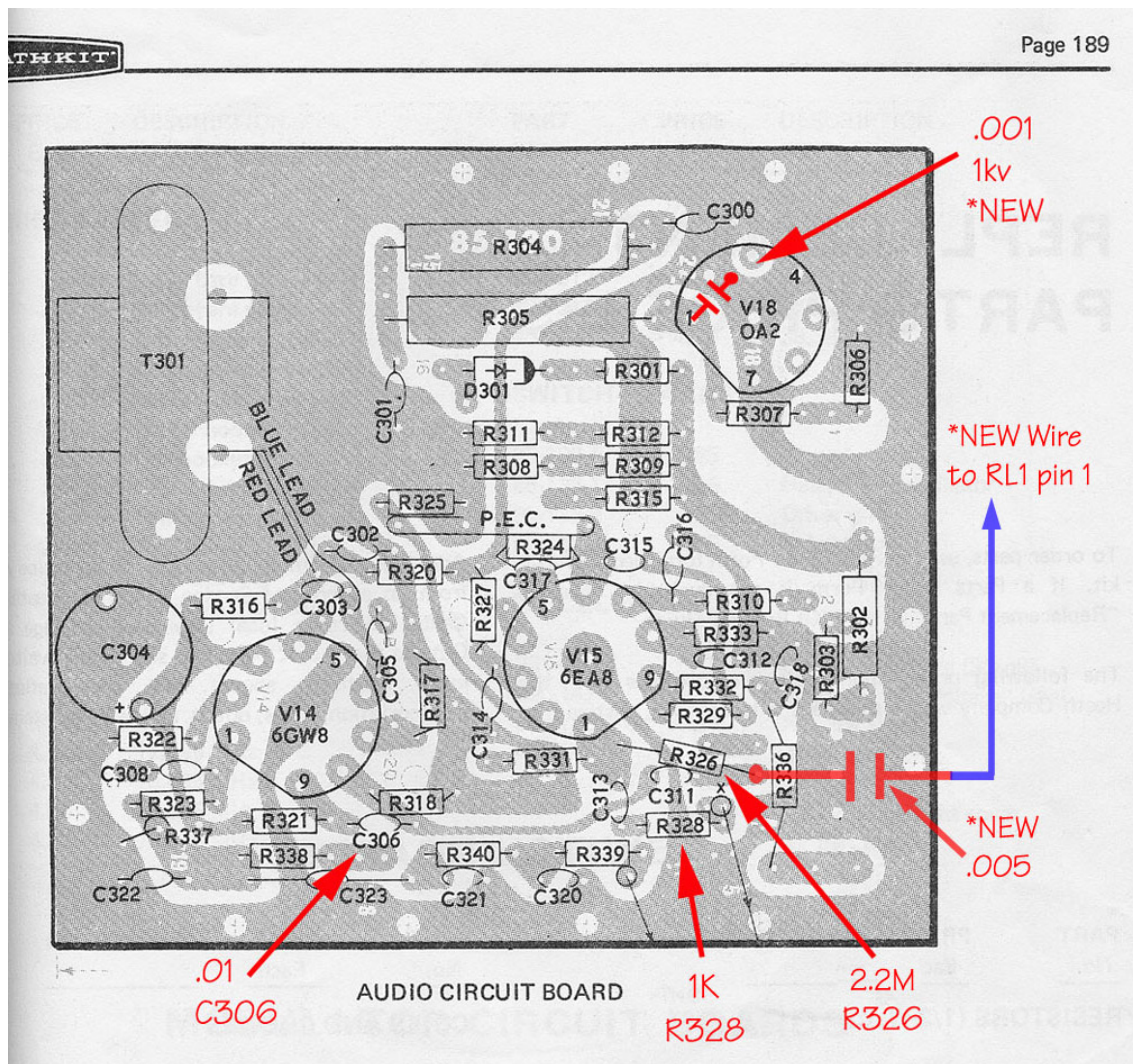
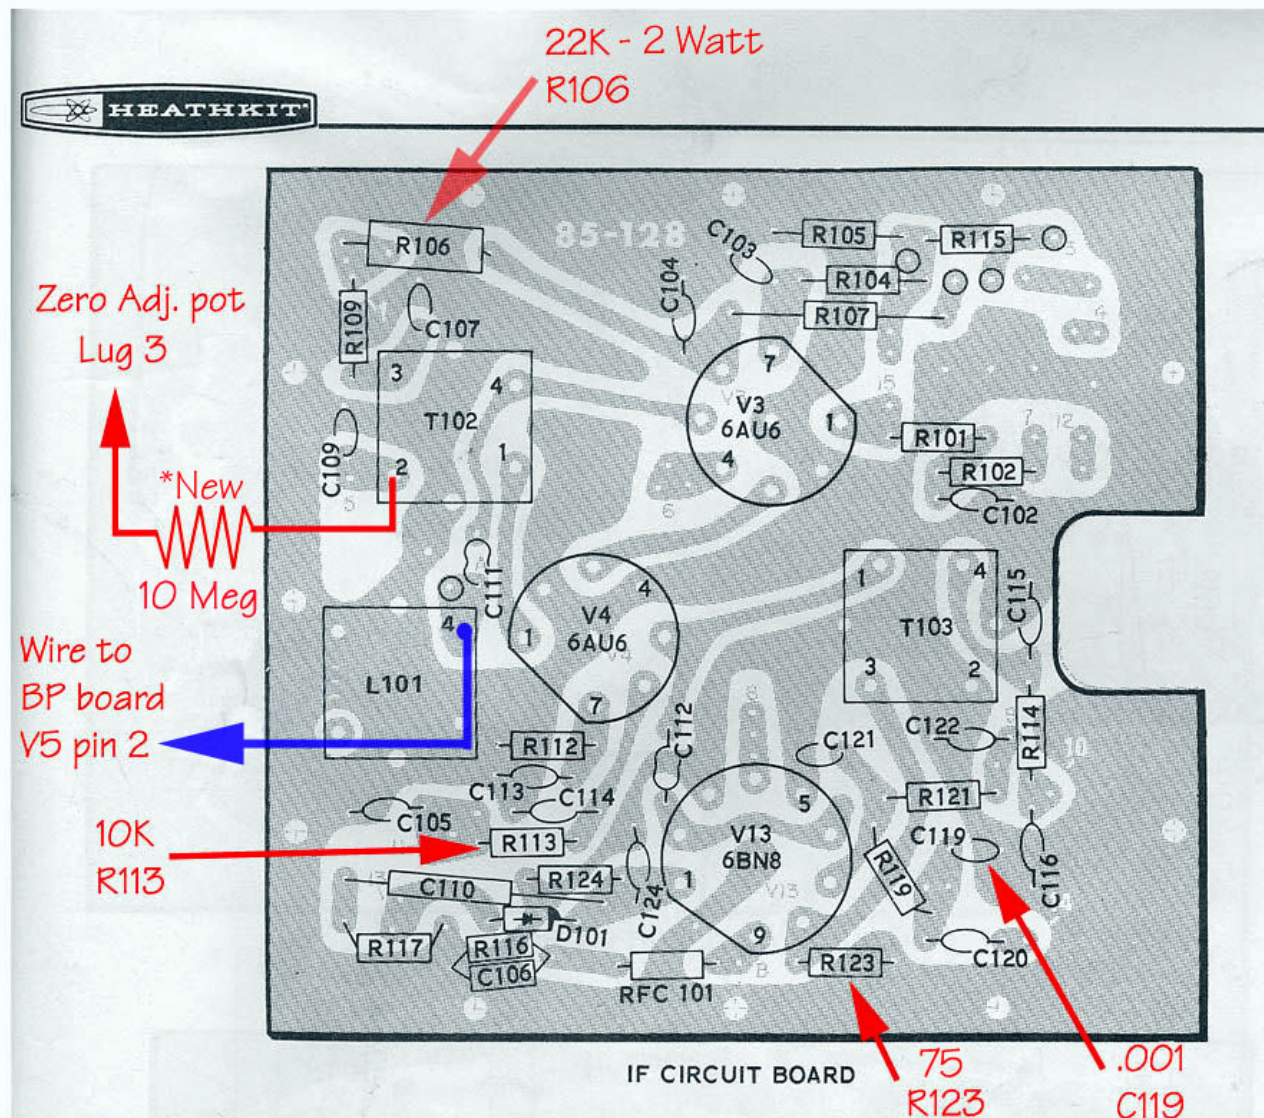
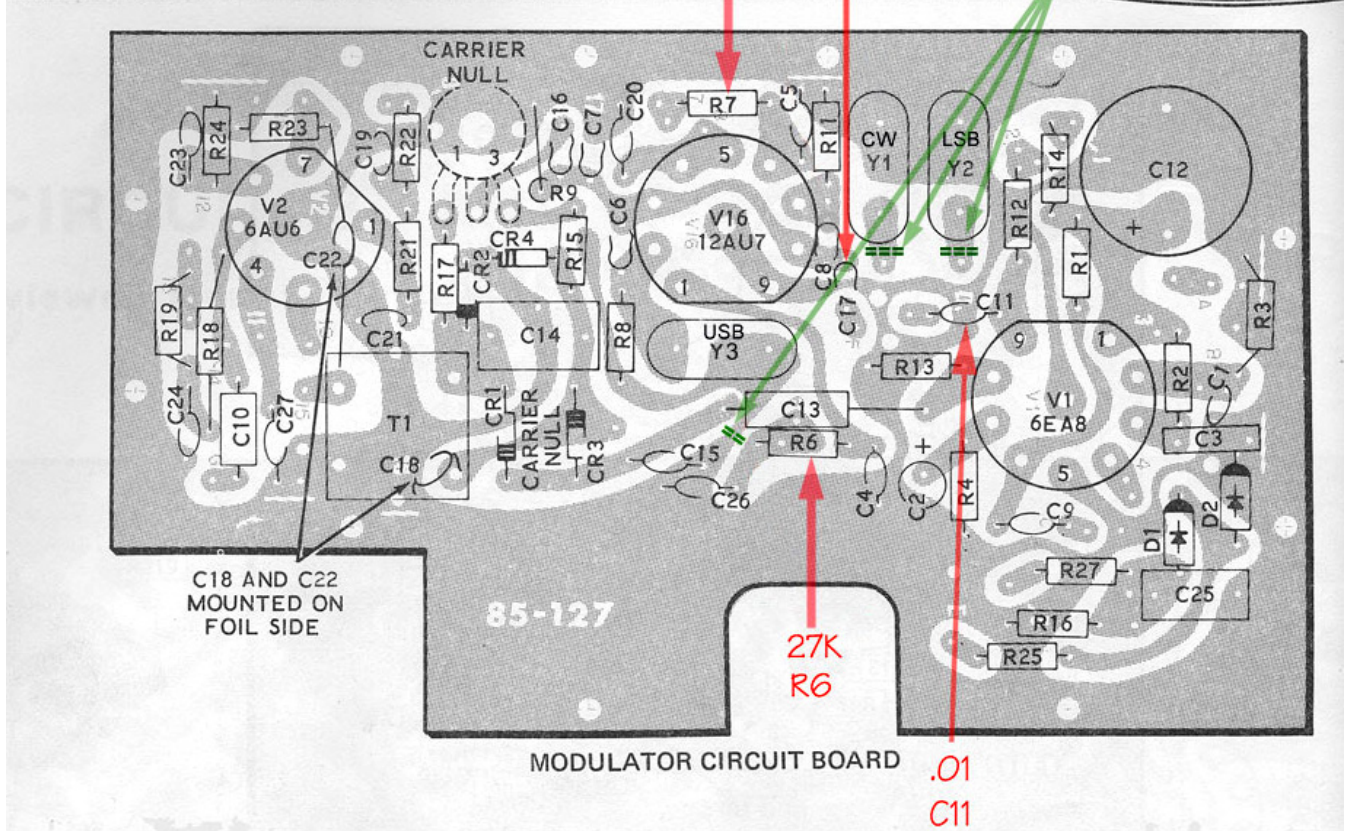

Figure 2
Figure 3
Figure 4
In the CW mode the rig's relays are energized by the CW sidetone amplifier's sidetone output driving the vox relay amplifier. The audio (sidetone) drive to the vox amp is a bit on the low side for fast relay action, and at speeds approaching 20 wpm the first dot sent is heard in the sidetone but isn't transmitted due to the slow relay response time. Correcting this is a very simple modification – simply replace the 470K $\Omega$  resistor R328 on the audio board with a 1K $\Omega$  resistor (**Figure 2**). This increases the drive to the vox amp enough to cause the relays to pull in quicker. Now the rig will key reliably at 20 wpm. The first dot tends to become shortened at 25 wpm but the rig is useable at this speed.
- 3) On the audio circuit board, replace 1M $\Omega$  resistor R326 with a 2.2M $\Omega$  resistor (**Figure 2**).
The transmitter audio quality can be improved by changing the value of coupling capacitor C11 on the modulator board from .001  $\mu\text{fd}$  to .01  $\mu\text{fd}$  (**Figure 4**). This will increase the low frequency response and give the transmit audio a little more “body”.
If 10K $\Omega$  resistor R202 is present between the I.F. circuit board (L101 pin 4) and the bandpass circuit board (V5 pin 2), remove and replace it with a piece of insulated hook up wire (**Figure 3**). This will increase drive to the 1st transmit mixer. This change is already incorporated in later model HW-101s.
During alignment check to see if, while adjusting T-102 (**Figure 3**), there are two points where the transformer can be peaked -- one spot for transmit and a slightly different setting for receive. If so, peak the transformer for maximum transmit drive instead of maximum receive gain. The receiver has an abundance of gain, however the transmitter could use a little extra. This will get rid of some of the receiver gain but WILL NOT affect receiver sensitivity.
Also change the value of the screen dropping resistor R113 in the second I.F. amplifier V4 from 1K $\Omega$  to 10K $\Omega$  (**Figure 3**). This will reduce the gain of this stage a bit and improve gain distribution.
To increase BFO drive, simply replace coupling capacitor C17 on the modulator board with a 100pf silver mica, and replace the 33K $\Omega$  resistors R6 and R7 on the modulator board with 27K $\Omega$  resistors (**Figure 4**). To reduce I.F. drive, change resistor R123 on the I.F. board from 470 $\Omega$  to 75 $\Omega$  (**Figure 3**).
Additional rolloff of the high frequency response will remove the raspy nature of the receive audio, and this is accomplished by changing the value of capacitor C119 on the I.F. board from 500pf to .001  $\mu$ fd (**Figure 3**). The low-end audio response of the audio amplifier increases slightly by replacing coupling capacitor C306 on the audio board with a .01  $\mu$ fd disk capacitor (**Figure 2**).
I like audio with a tad bit more bottom end response, so I placed my carrier points just a little closer to the filter center frequency than the Heath spec., i.e., rather than 1.6 kHz off center I went with 1.4 kHz. The frequency of the oscillator is lowered by placing a small amount of capacitance in parallel with the crystal, and the frequency is raised by putting capacitance in series with the crystal. To put a capacitor in series with the crystal simply cut one circuit board trace just before the crystal pin as indicated, and solder the capacitor across the opened trace (**Figure 4**). A 100 pf capacitor in series will move the crystal frequency up about 100 Hz, but the same frequency change in the downward direction would only require about 10 pf connected in parallel with the crystal.
S-meter zero setting instability is mainly caused by heat-related resistance changes in the R106 22K $\Omega$  1-watt resistor on the I.F. board. Replace R106 with a 22K $\Omega$  2-watt wirewound (*Figure 3*).